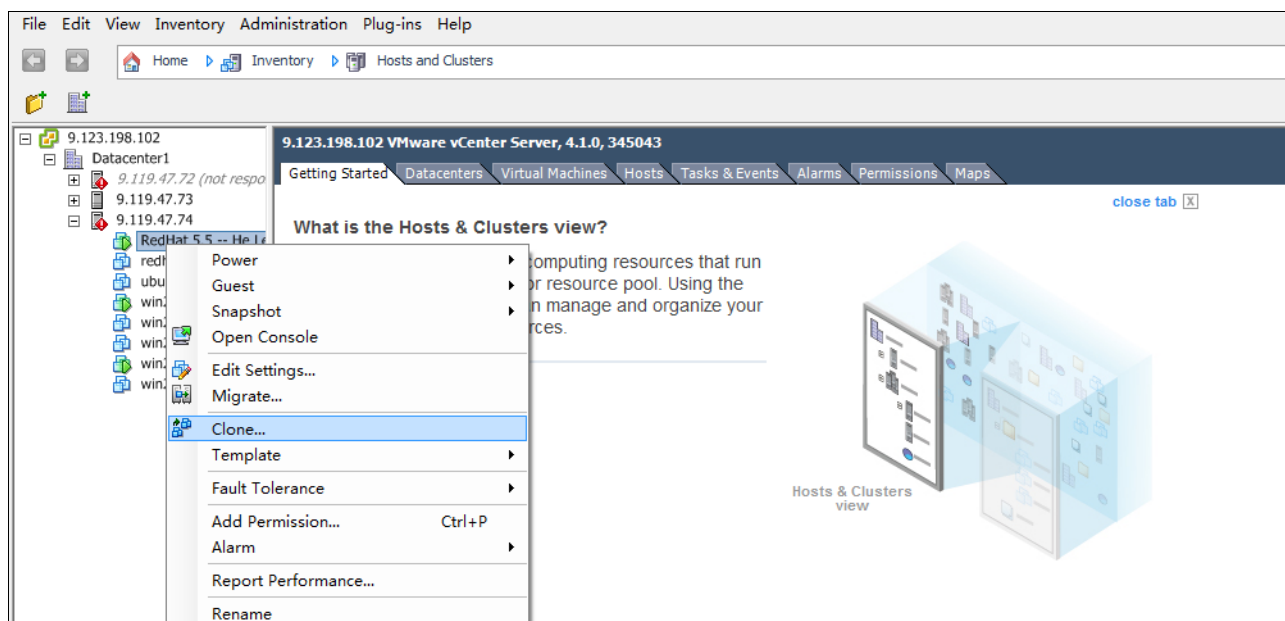

Figure 3-54 Starting the clone process
1. Use the vSphere Client to connect to the vCenter server. Right-click the source virtual machine that you are migrating and click **Clone**, as shown in Figure 3-54.